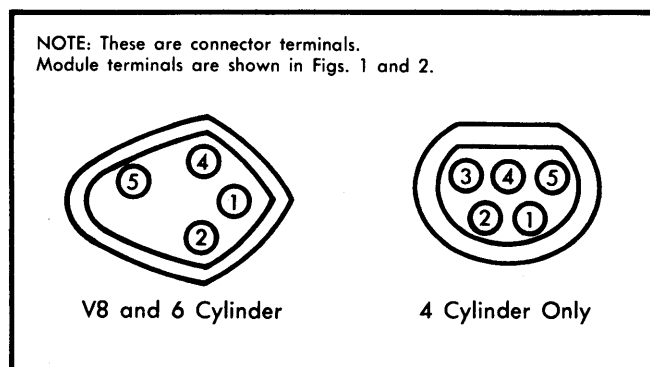

Fig. 5 Identification of Wiring Harness Connector Terminals
- 1) On V8 and 6 cylinder models only, turn ignition switch "OFF". Disconnect control unit connector. Connect ohmmeter leads to pin numbers "4" and "5" of harness connector. See Fig. 5. Ohmmeter reading should be 150-900 ohms. If reading is not to specifications, make same check at distributor 2-wire connector. If reading is still not correct, pick-up coil is bad and needs to be replaced.